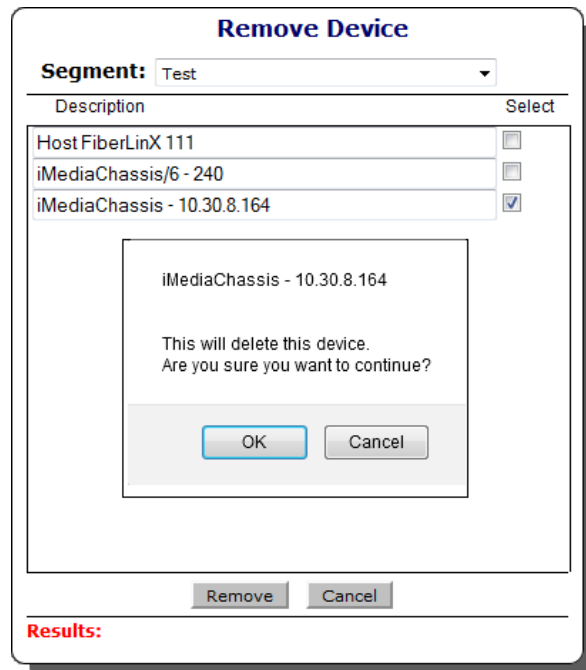

Figure 3.48 Remove Device Confirmation
4. Click Remove to remove the device from the database. This will display a message box listing your selections and ask you if you are sure you want to remove the device(s), as shown in Fig. 3.48.